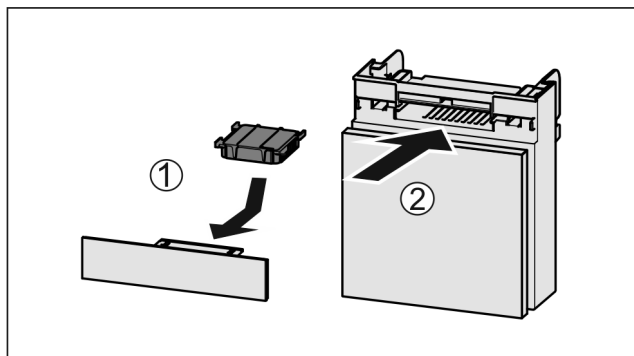

Fig. 200
- Insert the carbon filter as shown in the diagram Fig. 200 (1).
- Push the compartment in Fig. 200 (2).